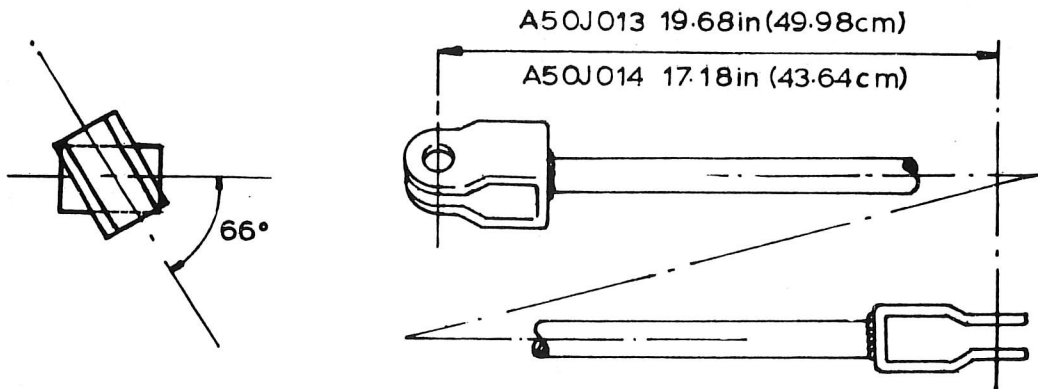

Fig.18. SHOWING RELATIVE ANGLES & LENGTHS BETWEEN ROD ENDS
2. Remove the existing handbrake actuating rods by extracting the split pins and clevis pins securing them to the now discarded lever assembly. These actuating rods can be modified to conform with the new rods (A50 J 013 and 014) by removing an end, cutting the rod to the desired length and then re-welding the end to the rod, ensuring that the ends are re-welded at the angles given in Fig.18. Re-attach the actuating rods to the lever assembly with the clevis pins and new split pins.